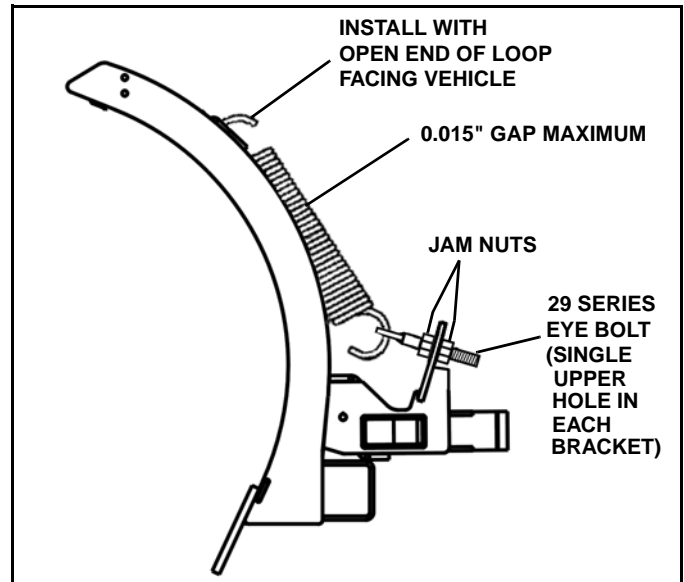
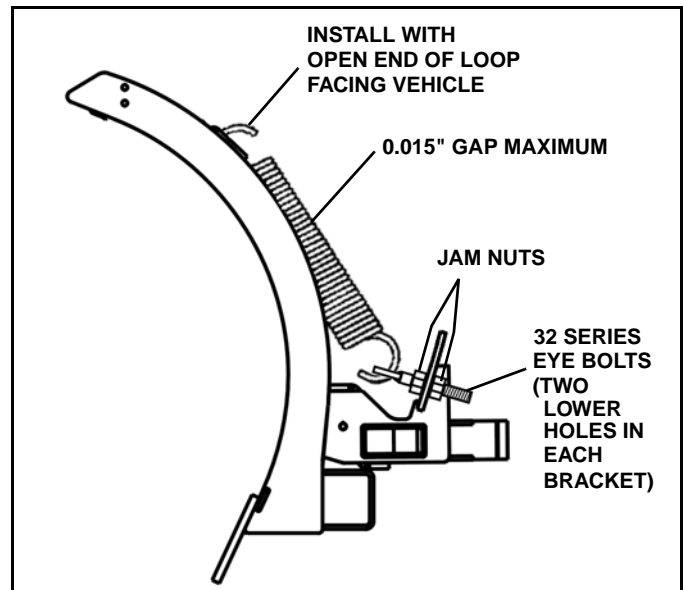

Figure 1-6a
Figure 1-7b
7. Hook springs onto blade with open end of loop facing up. (See Figure 1-6a) and (See Figure 1-7b).
8a. **29 SERIES BLADE ONLY:** Hook other end of spring onto eyebolt. Insert one eyebolt on each side of the blade into the single upper hole on the swing frame spring bracket. Use a jam nut on either side of bracket to secure. (See Figure 1-6a).
8b. **32 SERIES BLADE ONLY:** Hook other end of spring onto eyebolt. Insert two eyebolts on each side of the blade into the two lower holes on the swing frame spring bracket. Use a jam nut on either side of bracket to secure. (See Figure 1-7b).